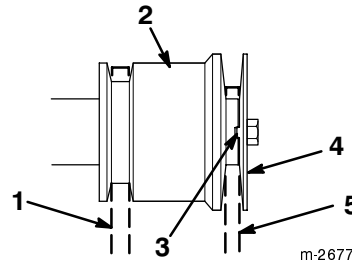

Figure 32
Note: Make sure not to pinch the traction drive belt (Fig. 32).
- Install the engine pulley sheave, washer, lock washer, and crankshaft screw. Make sure that the indexing rib in the engine pulley sheave aligns with the indexing notch in the engine pulley (Fig. 32).
Note: Make sure not to pinch the auger/impeller drive belt (Fig. 32).
Note: Make sure that the indexing rib in the engine pulley sheave aligns with the indexing notch in the engine pulley. Also, make sure not to pinch the drive belt (Fig. 32).